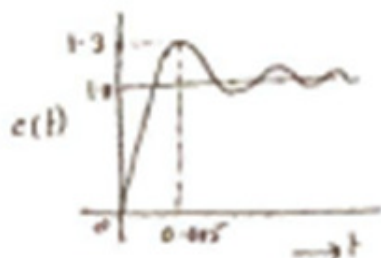

Figure 5
- (b) (i) The open loop transfer function of a unity feed back system is given by $G(\lambda)H(\lambda) = \frac{100}{\lambda^2(\lambda + 4)(\lambda + 12)}$. Determine the steady state error, if $r(t) = 2t^2 + 5t + 10$. (10)
- (ii) The unit step response of a stepper motor is as shown in Figure 5. Find its transfer function (6)